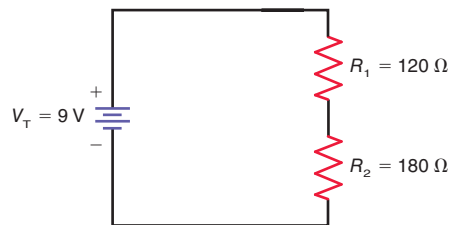

Figure 5-20
5.3 In Fig. 5-20, solve for R_T and I .
- 5.8 In Fig. 5-20, find the voltage drops across R_1 , R_2 , and R_3 .
5.20 In Fig. 5-20, calculate P_1 , P_2 , and P_T .